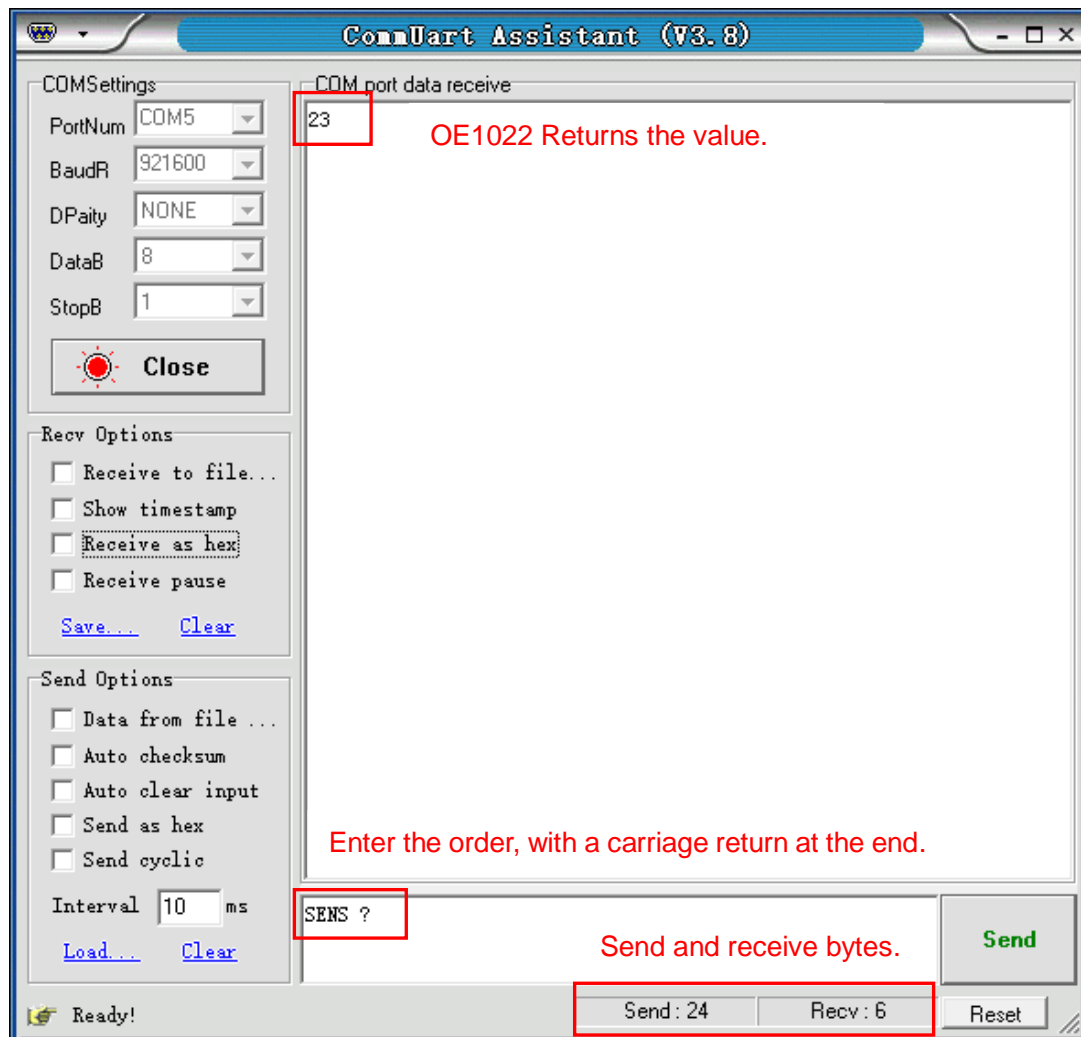
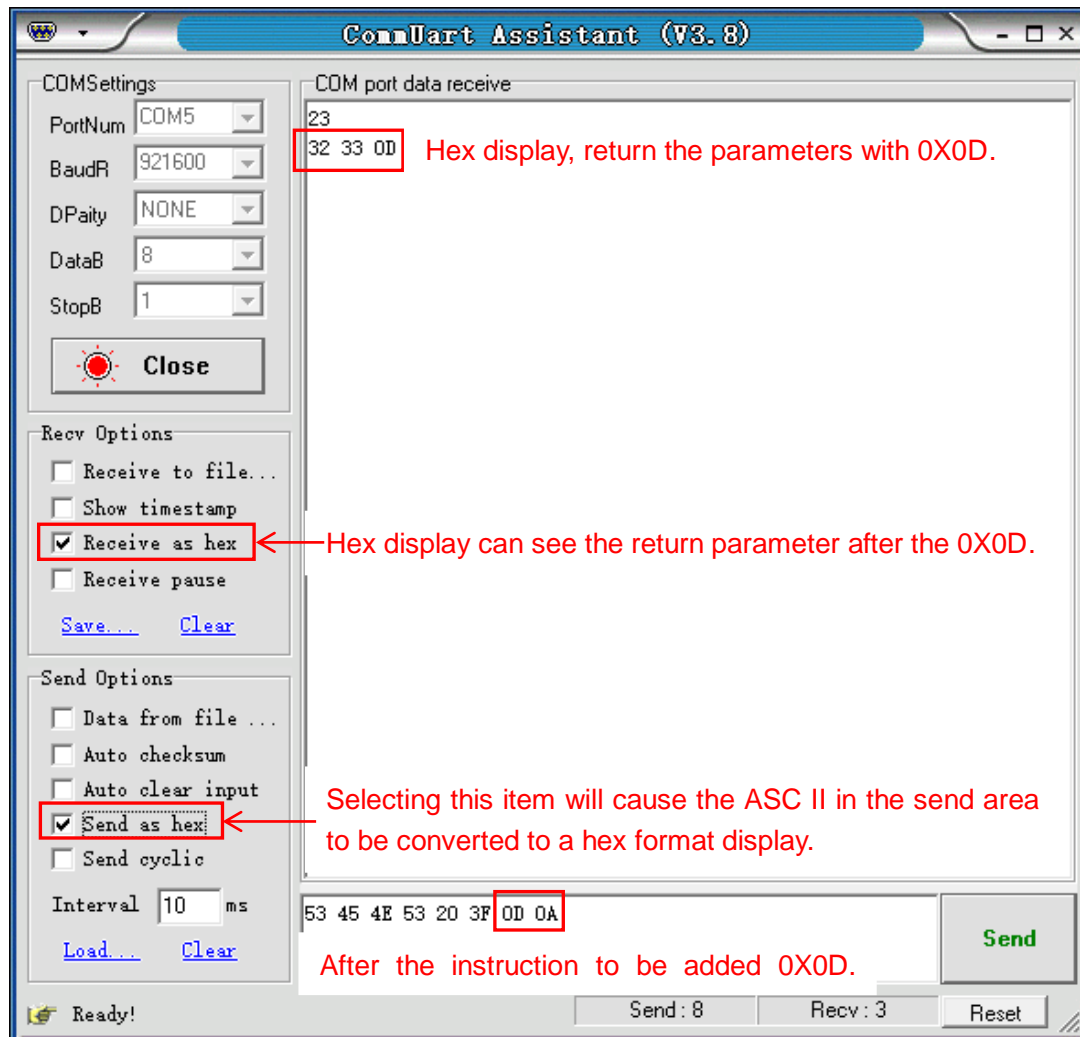

Fig.109 Send and receive commands in ASCII words
Fig.110 Send and receive commands in HEX
1) The commands consist of four upper mnemonics, option parameters and a terminator. Several commands at the same line are separated by semicolons. More details please see Chapter 5 Remote Programming. The terminator can be a carriage return <cr> or a hexadecimal number 0D. When sending the command, first input the command in the sending area, then press the Enter key, then click the 'Send' button, the command will be sent. As shown in Fig.109 and Fig.110.